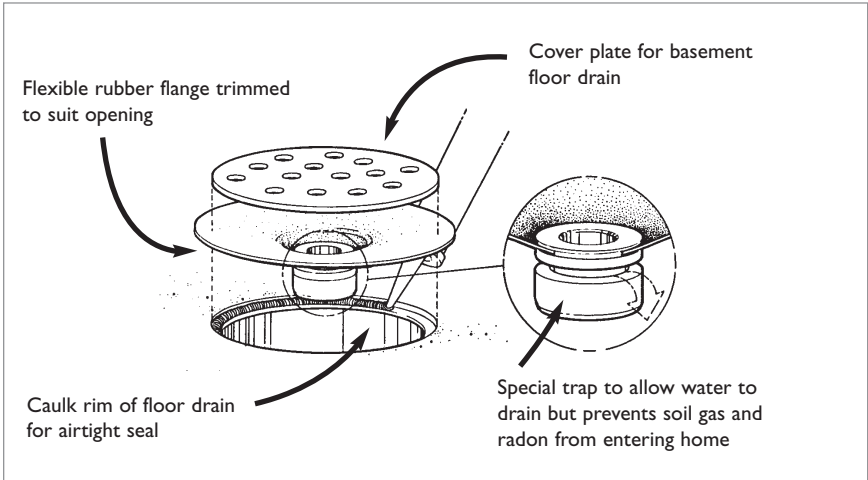

Figure 9: Trap for existing floor drains
- **Floor drains** – Basement floor drains can have special traps installed that allow water to drain, but prevent radon from entering the basement (*see* figure 9). These special traps are not a substitute for a sewer backup valve.